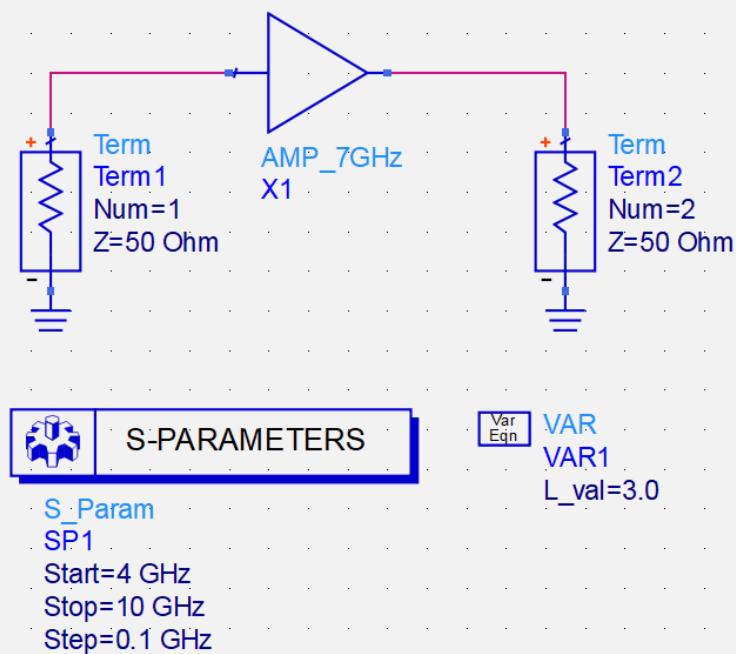

Figure 16. Schematic used for determining initial input impedance
4. Add a **VAR** block and set **L_val = 3.0**. The finished schematic is shown in Figure 16.